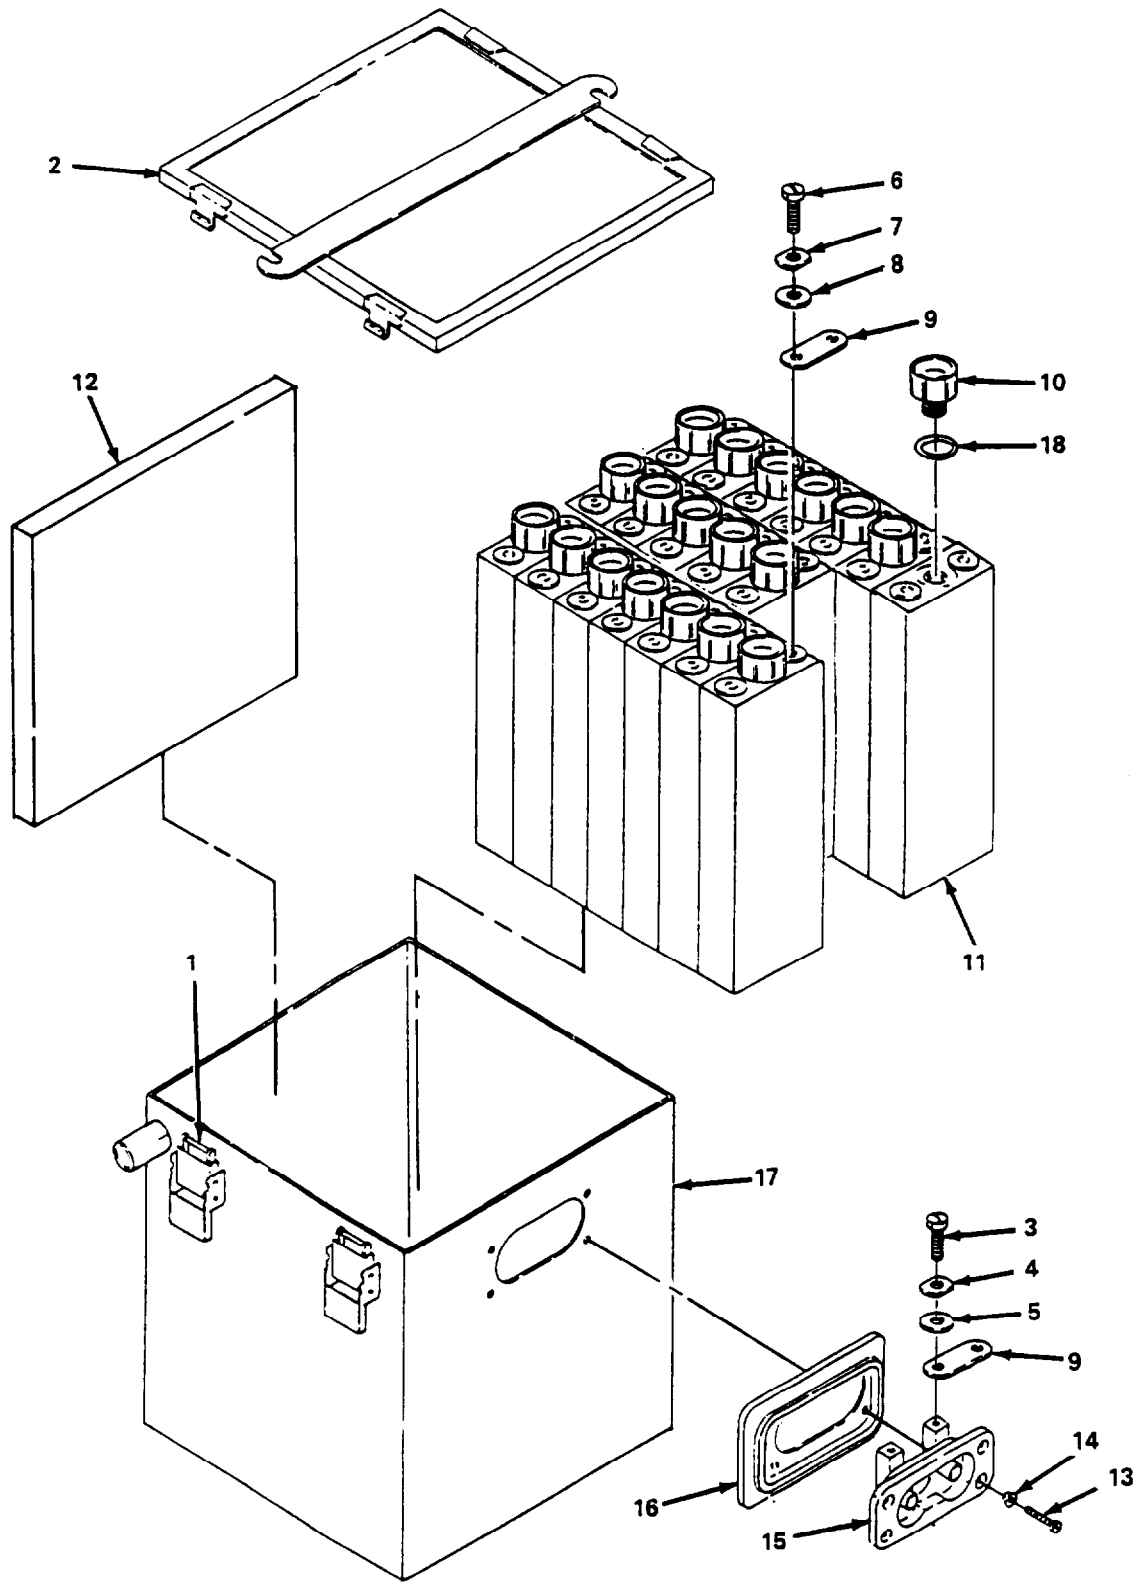

Figure 3-25. Battery BB-649A/A Disassembly.
a. Disassembly/Reassembly (fig. 3-25).
- (1) Unsnap four latches (1) and remove cover (2).
- (2) Discharge battery (para 3-10).
- (3) Remove screw (3) washer (4), and spring washer (5).
- (4) Remove screw (6) washer (7), and spring washer (8) and remove terminal link (9).
- (5) Repeat steps (3) and (4) as necessary and remove remaining terminal links.
- (6) Loosen but do not remove filler caps (10).
- (1) Discharge battery (para 3-10).
- (2) To remove any of the above items, refer to the exploded view (fig. 3-25) and the appropriate sections of paragraph 3-23a.
- (3) Upon completion of repair, perform the test procedures contained in paragraph 3-23c, below.